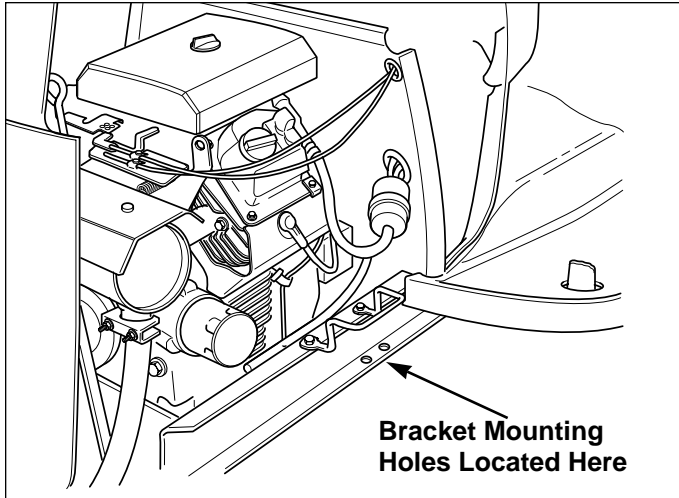

Figure 7. Front Hitch Bracket Mounting Holes
1. Locate the bracket mounting holes on both sides of the frame (see Figure 7).